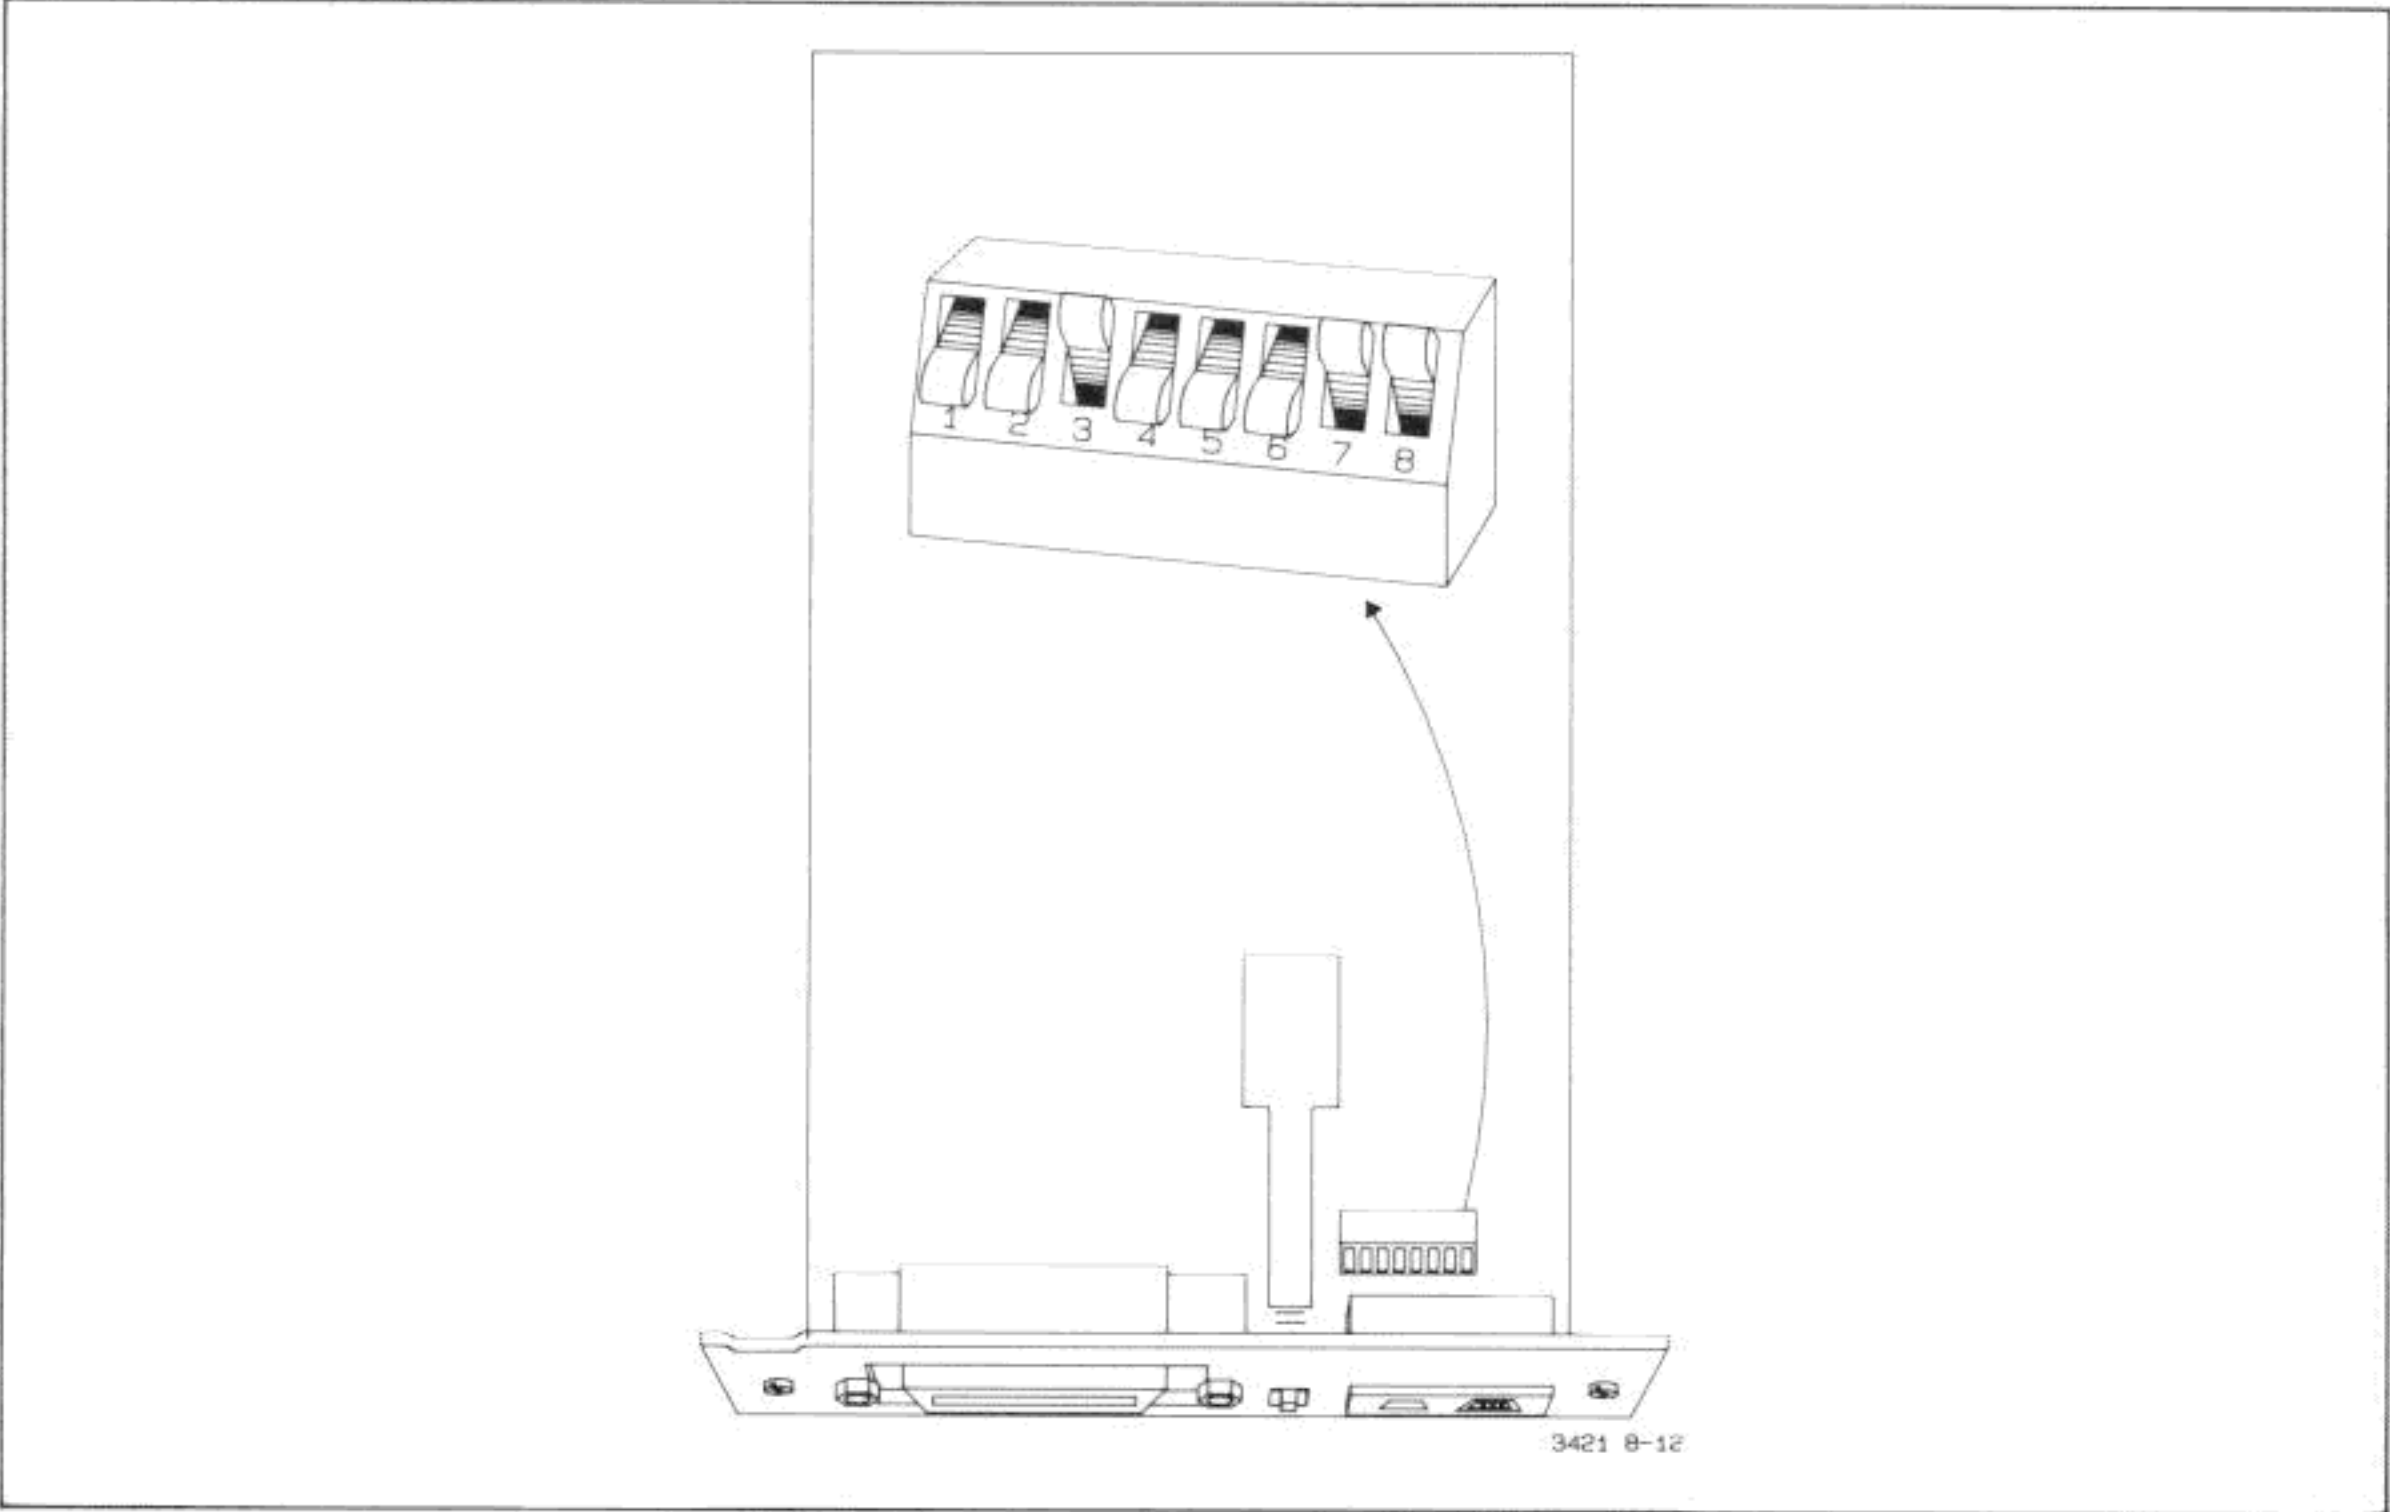

Figure 4-8-12. S802 Switch Settings for Signatures in Table 4-8-5
d. Set the S802 switch segments as shown in Figure 4-8-12 and check for the signatures listed in Table 4-8-5. If any signature is incorrect, refer to paragraph 4-8-71 to isolate the defective area. If all signatures are correct, proceed with step e.
Table 4-8-5. Signatures for Figure 4-8-12 Switch Settings (SA test #1)